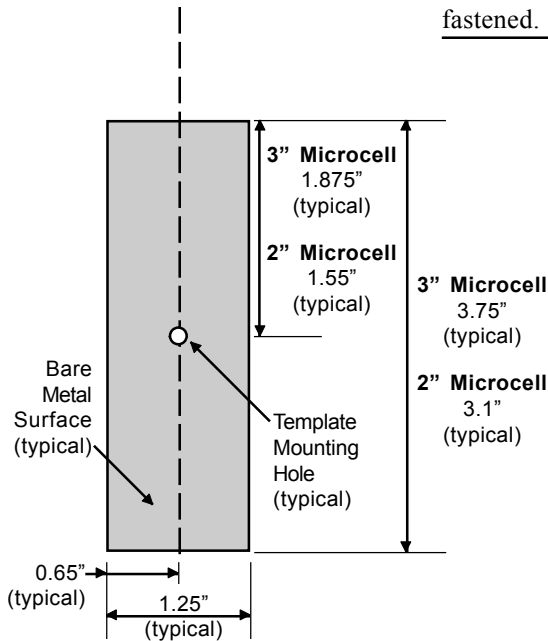

Figure 6-8. Prepared Mounting Surface
1. Using the #8-32 tap, thread the template mounting hole for the vertical Microcell (drilled during *Surface Preparation*) to a minimum $\frac{5}{8}$ " (16mm) depth, full threads. Remove any burrs from the hole. Fig 6-8